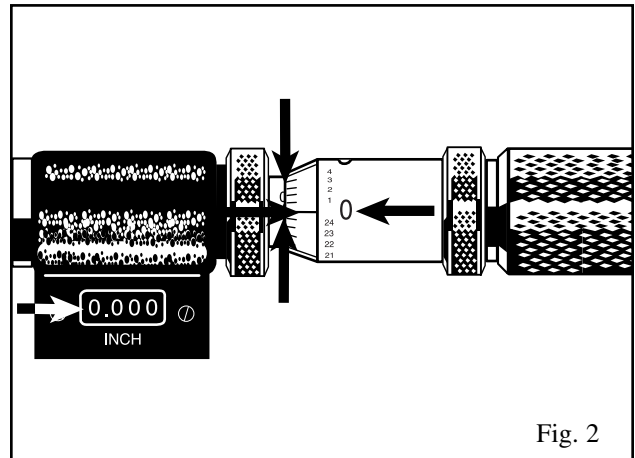

Fig. 2
2. Align thimble until thimble and barrel are lined up perfectly at 0/0 (Fig. 2).